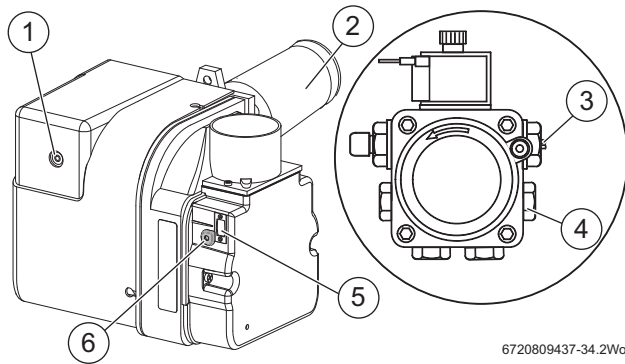

Fig. 70
- ▶ Wait 2 minutes then press the lockout reset button D (→ figure 70) to initiate another start sequence.
- ▶ Release the burner retainer nut (F).
- ▶ Check for after-spurting from the nozzle, indicated by oil saturation on the combustion head (→ item G, figure 70).